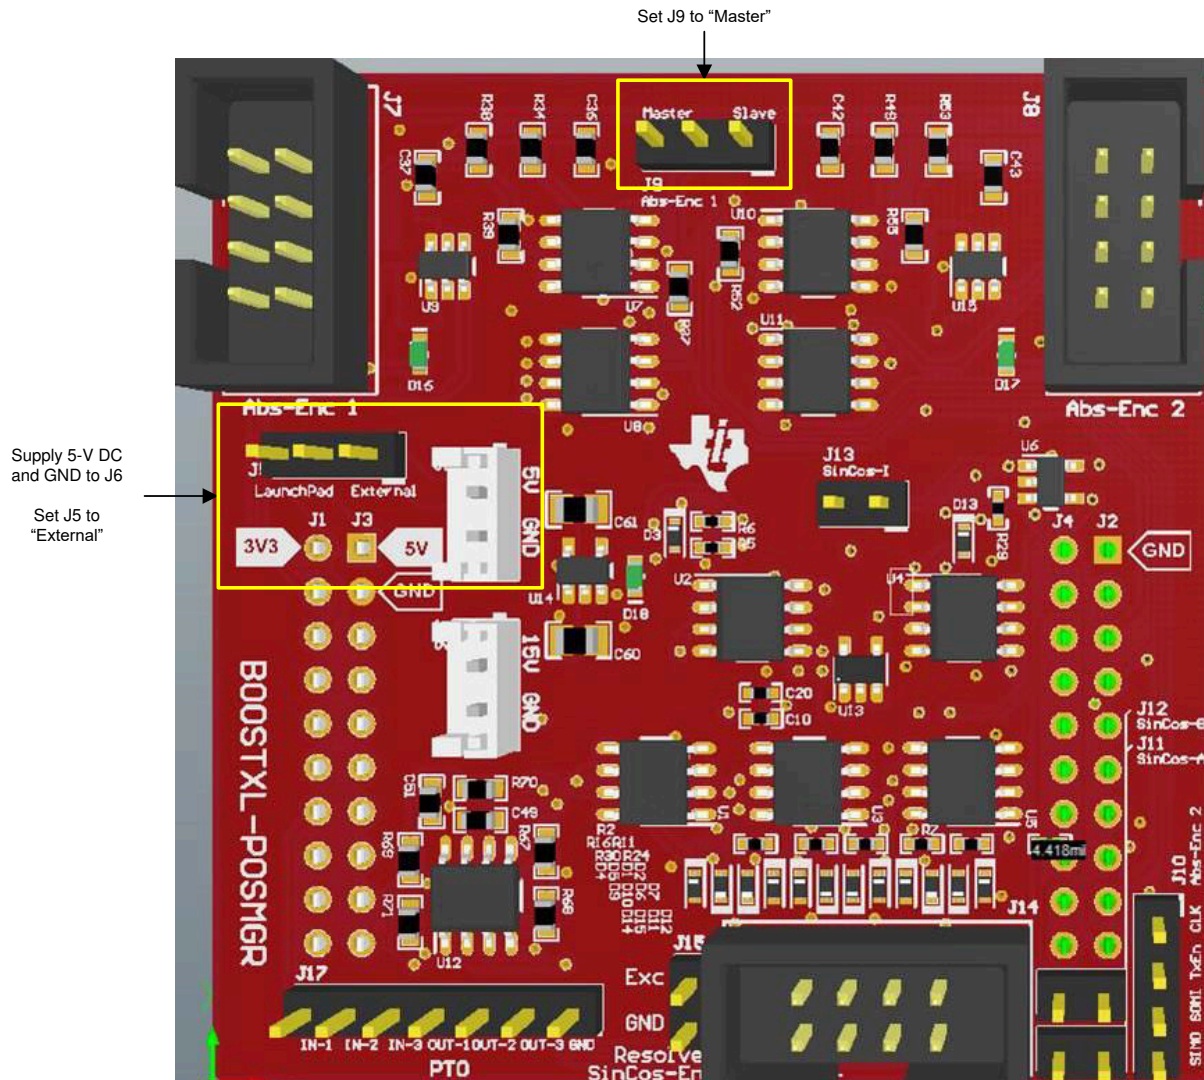

Figure 3-1. TIDM-1011/Position Manager BoosterPack Jumper Configuration
Figure 3-1 shows the jumper configuration for TIDM-1011 board.
(1) This configuration requires providing an external power source to J6, as shown in Figure 3-1.
(2) This jumper is for a future reference design.